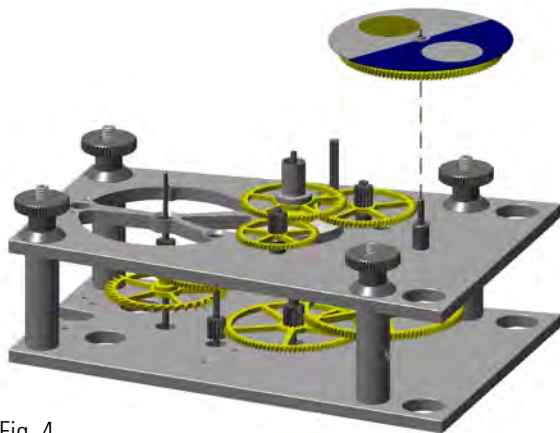

Fig. 4
2. Fitting the Day & Night wheel/disc (see figure 4)